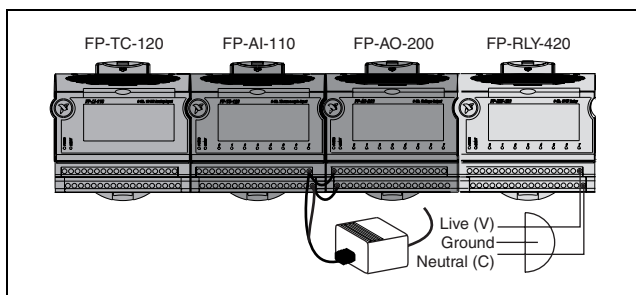

Figure 10. Different Voltage Potentials
- You need to wire power to the terminal bases only if you want to use the terminal bases to route power to your field devices or if the I/O module requires it. FieldPoint I/O modules get their power from the network module through the backplane and, in most cases, require no external power for proper operation. Refer to your I/O module operating instructions for details. In Figure 10, shades of gray indicate differing voltage potentials.